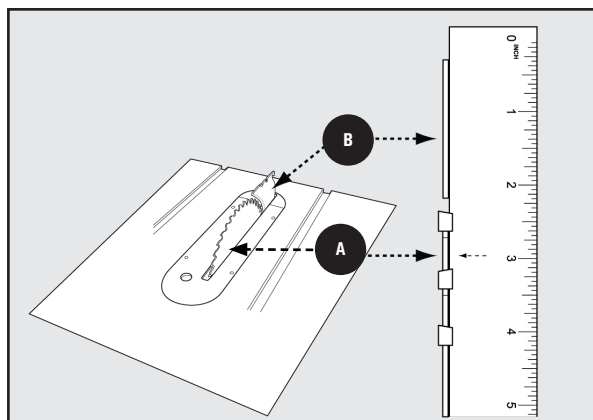

Figure 42
- 1. Horizontal Alignment:** Lay a straight edge on the table against blade face **A** and make sure it extends out along the riving knife **B**, see Figure 42. The riving knife should just touch the straight edge. Be sure the straight edge goes between the teeth and rests on the blade face and the riving knife for proper alignment.